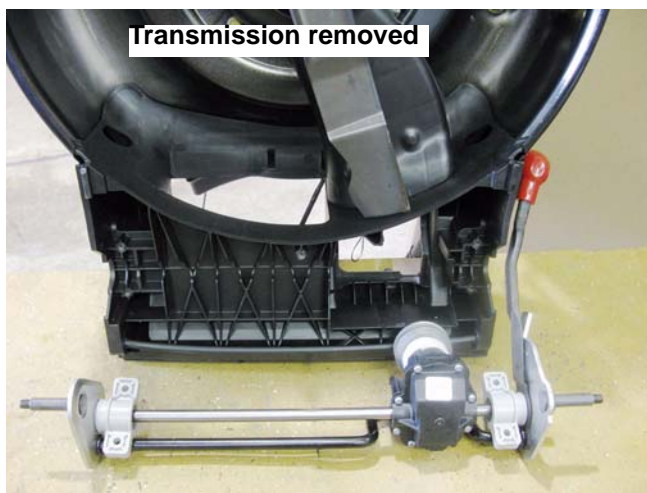

Figure 4.58
5. Remove the transmission as described previously in this chapter. See Figure 4.58.